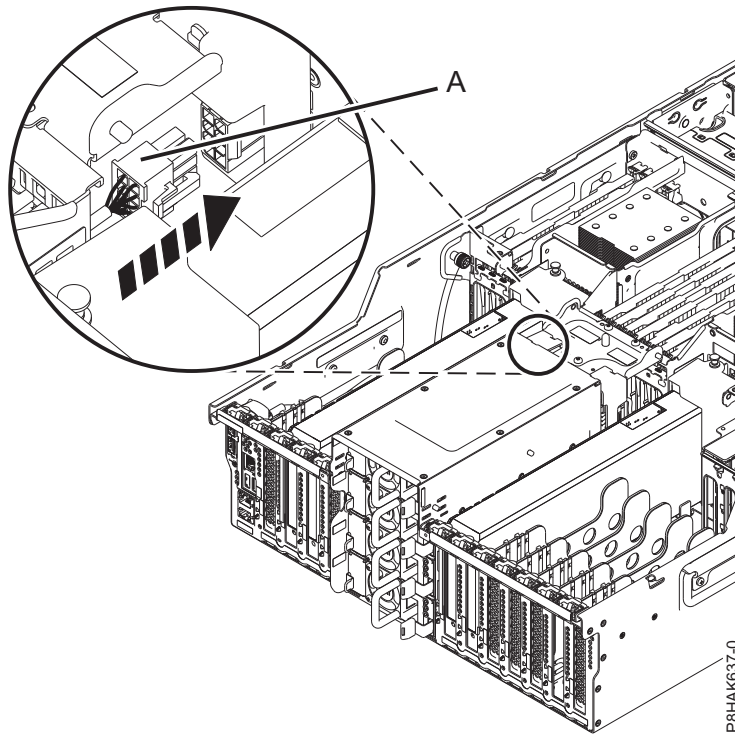

Figure 6. Connecting the power cords for the GPU adapter PCIe adapter in the 8247-42L system
7. If you are installing or replacing the PCIe gen3 x16 GPU adapter (FC EC47 or EC4B) in an 8247-42L system, connect the auxiliary power cable (A) to its connectors on the system backplane, as shown in Figure 6 on page 8, and then continue with step 8 on page 8. If you are installing any other adapter, go to step 8 on page 8.